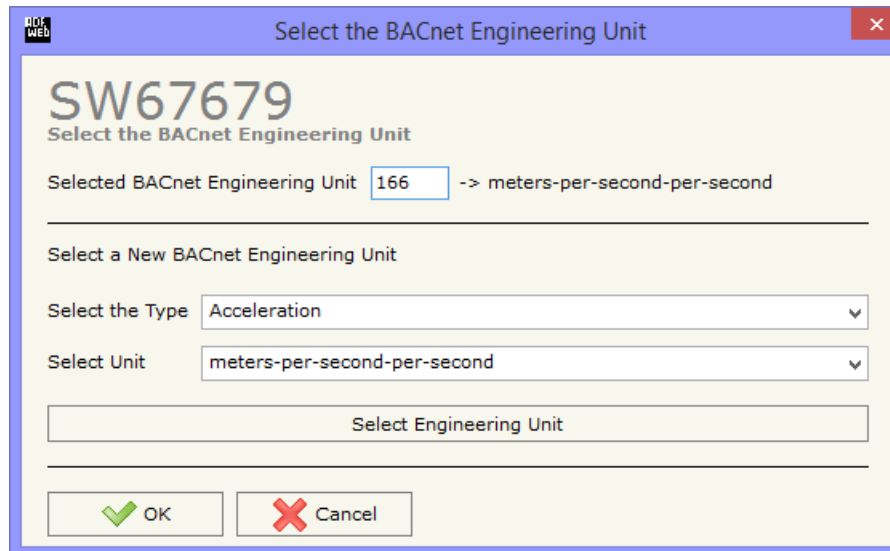

Figure 5: "Select the BACnet Engineering Unit" window
- In the field **"Eng. Unit"**, with double click the window "Select the BACnet Engineering Unit" appears (Fig. 5);